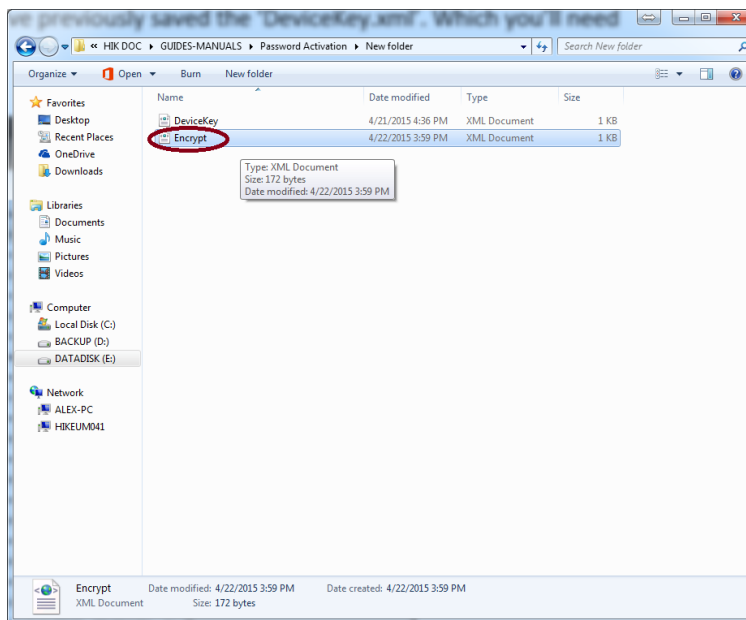

Figure 119 Save this file in same folder where you've saved "DeviceKey.xml"
6. Once you send the “DeviceKey.xml” file, you’ll receive an encrypted file named ‘Encrypt.xml’ back via e-mail in approximately 24 hours. Save this file in the same folder you’ve previously saved the “DeviceKey.xml” (Figure 119). You’ll need the path to import the encrypted key later on.